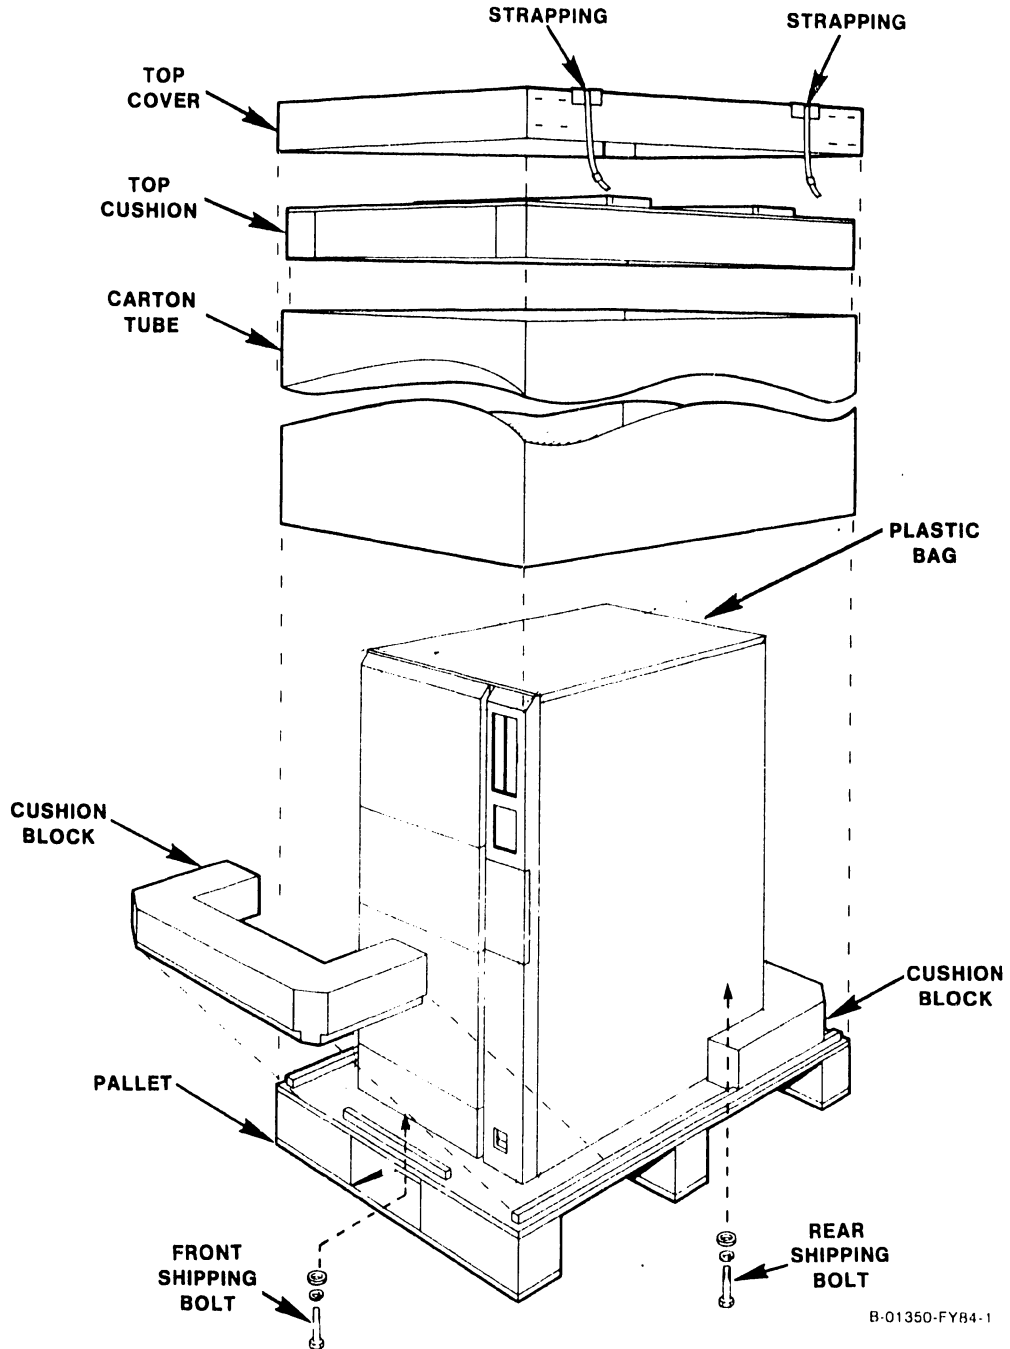

Figure 4-1. VS-15 Shipping Carton
1. Cut the plastic strapping that secures the top cover and carton tube to the pallet. (See figure 4-1.)